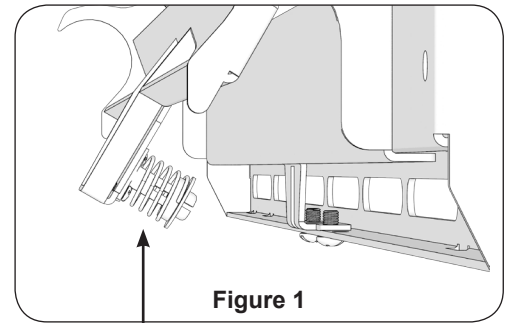

Figure 1
1. Push evenly in the front of the LMVP to release the single latch spring lock (Figure 1).